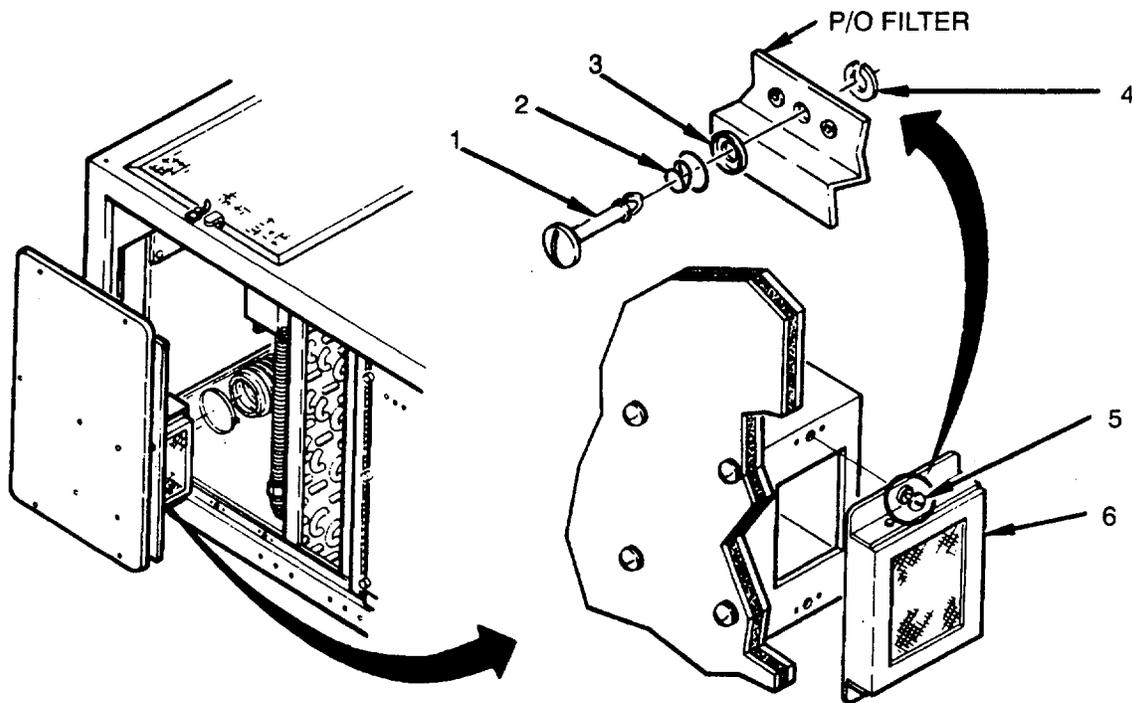

Figure 4-40. Fresh Air Filter
1. Loosen two captive fasteners (5) (see Figure 4-40).
2. Remove filter (6).